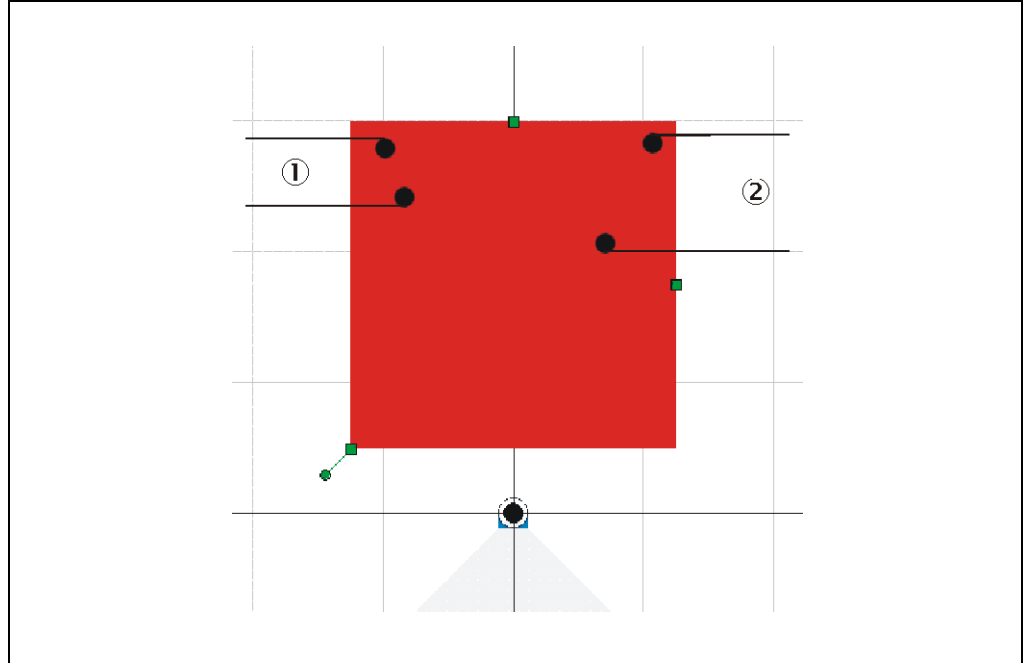

Fig. 28: Distance-dependent pixel evaluation
In **Fig. 28** the detections in example (1) are so close together (distance \leq value in the OBJECT SEPARATION field) that they are considered as one object. The evaluation field is considered infringed.